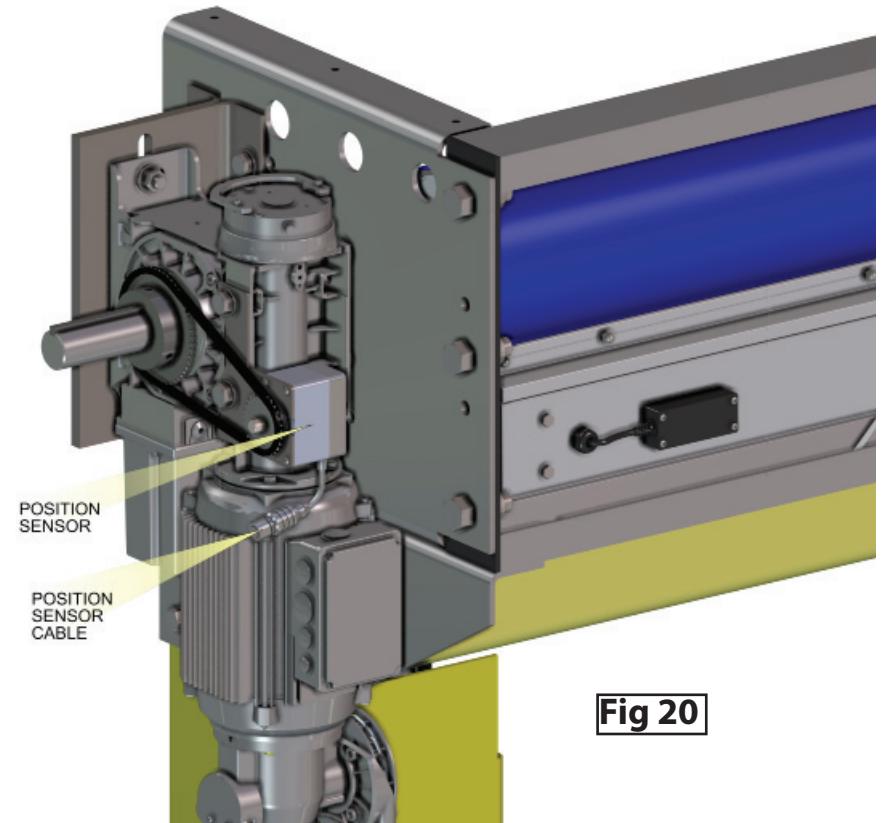

Fig 20
Find a suitable and easily accessible location for the Junction Box. See Fig. 20
Find a suitable and easily accessible location for the Controller. See FIG 20.
-5 pin cable connector (See Fig 20 and 21 on page 18)
The Position Sensor comes pre installed to the motor. See Fig 20 for location.